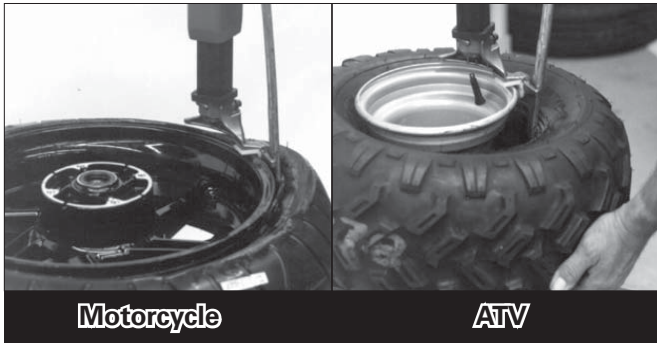

Figure 9 - Insert Bead Lifting Tool
10. Insert the smooth curved end of the bead lifting tool over the forward end of the demount tool and below the top bead of the tire. Use your free hand to press down on the tire opposite the tool to help with tool insertion (Figure 9).